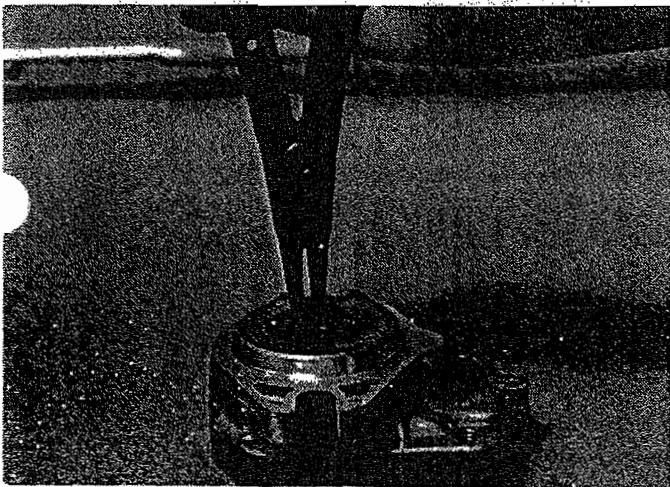

Fig.1
2. Lay the flange on a smooth, clean surface and remove the snap ring. (Fig. 1)